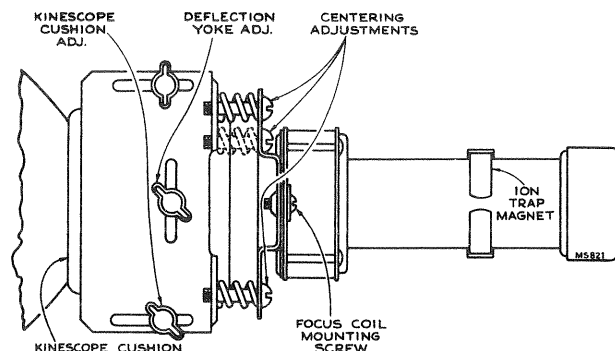

Figure 2—Yoke and Focus Coil Adjustments
**ION TRAP MAGNET ADJUSTMENT.**—Set the ion trap magnet approximately in the position shown in Figure 2, and with the part number on magnet towards the rear of the chassis. Starting from this position immediately adjust the magnet by moving it forward or backward at the same time rotating it slightly around the neck of the kinescope for the brightest raster on the screen. Reduce the brightness control setting until the raster is slightly above average brilliance. Adjust the focus control (R191 on the chassis rear apron) until the line structure of the raster is clearly visible. Readjust the ion trap magnet for maximum raster brilliance. The final touches on this adjustment should be made with the brightness control at the maximum position with which good line focus can be maintained.
**CENTERING ADJUSTMENT.**—No electrical centering controls are provided. Centering is obtained by mechanically orienting the focus coil with the three adjustment screws shown in Figure 2. Center the picture on the screen by adjustment of these screws. The focus coil should be concentric around the neck of the kinescope to prevent curvature of the raster.
**FOCUS COIL ADJUSTMENTS.**—If, after making the centering adjustments described in the above paragraph, a corner of the picture is shadowed, it will be necessary to loosen the focus coil mounting screws (shown in Figure 2) and change the position of the coil to eliminate the shadow. Recenter the picture by adjustment of the centering screws.